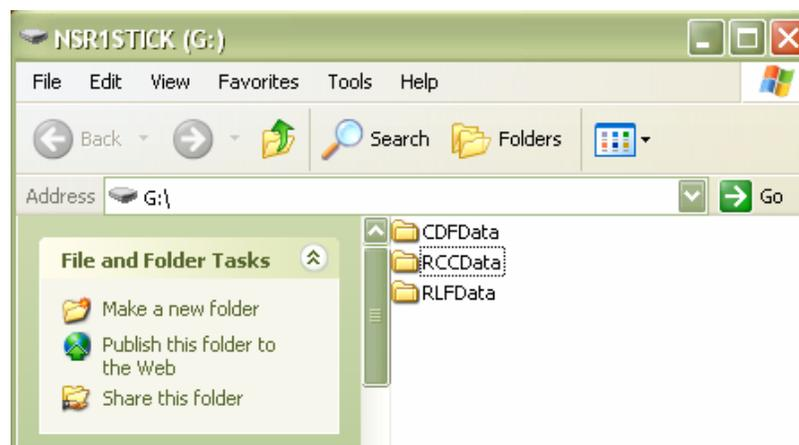

Figure 2.3 Memory Stick File Folders
- Three read-only folders for Cartridge Definition files (CDFData), Reporter Library files (RLFData), and Reporter Code Count files (RCCData) (Figure 2.3)